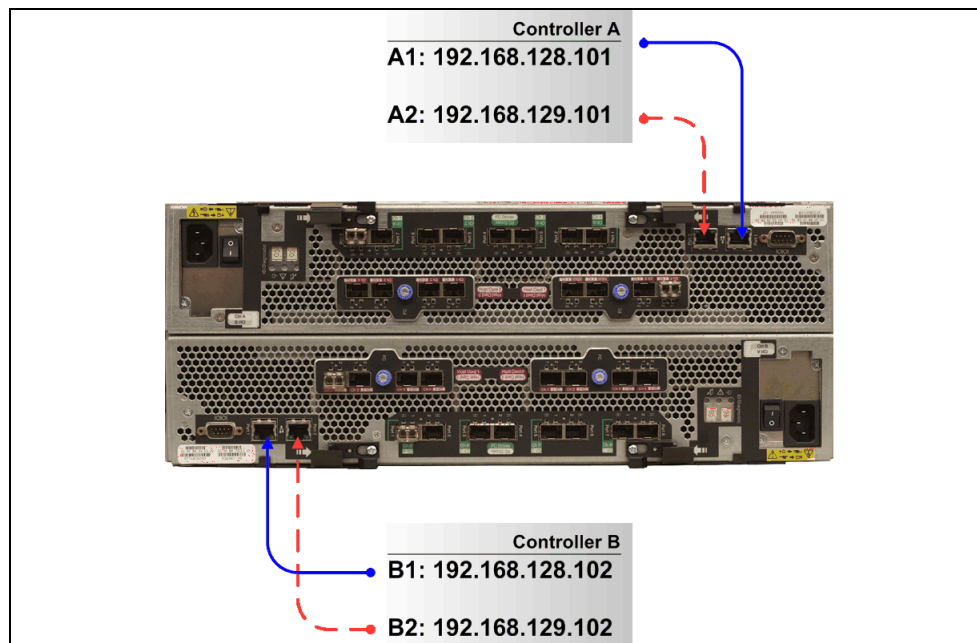

Figure 3-20 DS5000 storage subsystem default IP addresses
See the specific Ethernet port locations with their default IP addresses in Figure 3-20.
- j. The DS5000 has two Ethernet ports per controller. Cable and select a port from each controller for your management port. If you are planning to have the system connected to only one network, select port 1, leaving port 2 for service. If you are connecting port 2 then you must connect it to a different subnet than that used with port 1. See Figure 3-20 to confirm port locations for where to connect the LAN cables.